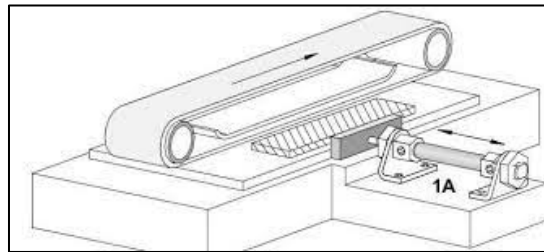

Figure 2(c)/Rajah 2(c)
- (c) The double-acting cylinder in Figure 2(c) below is used to push a plank of wood under a sanding (polishing) belt. By pressing a push button switch, the plank wood will slide and positioned under the belt. A push button switch is used to return the sliding table to its start position after the cylinder rod has reached its full extended position. Propose an electro-pneumatic circuit for this system.